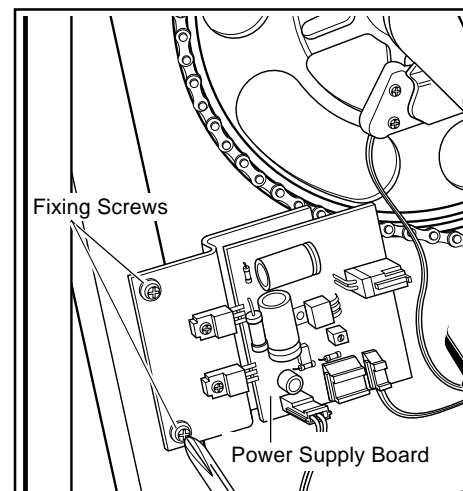

Fig. 1
3. Loosen the two screws which fix the power supply board to remove the board. (Fig. 1)